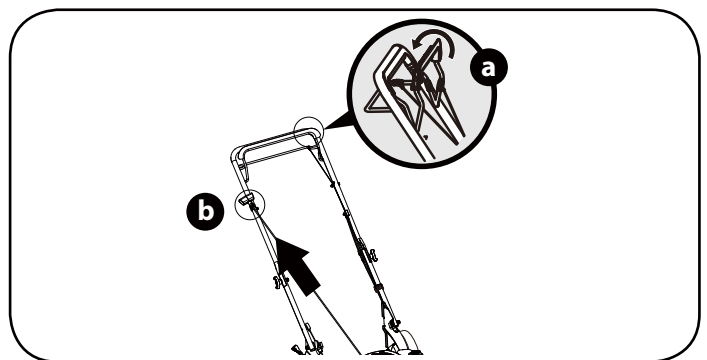

Figure 14
3. b. Pull the starter handle out approximately 4" to 6" until you feel a resistance and then start the engine with a sharp pull (see Figure 14). DO NOT allow the starter rope to snap back.